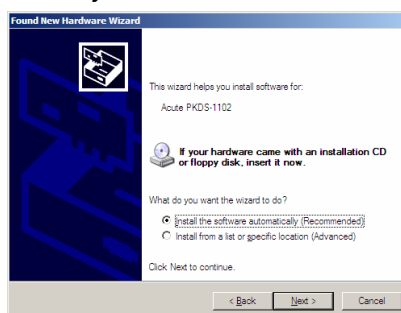

Figure 2
3. Choose "Install the software automatically (Recommended)" to find the proper driver automatically (Figure 2). Click "Next".